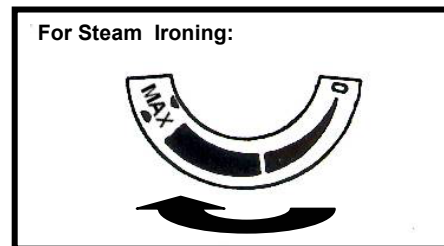

Figure 3
5. Slide the steam lever up to increase the amount of steam. When using extra steam, the iron uses more water and it may be necessary to fill the tank more often. See Figure 3.